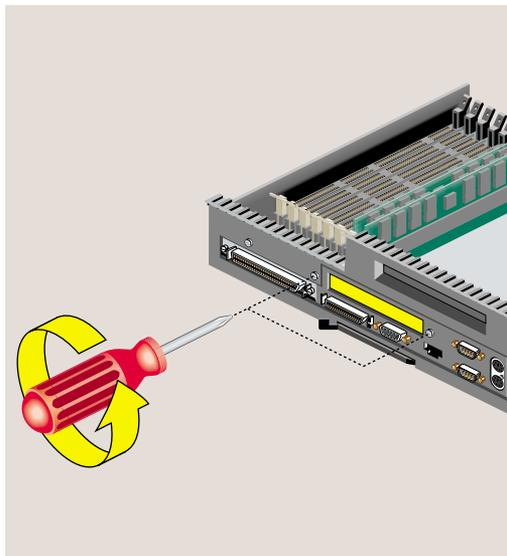

Figure 2-36 Removing the I/O Filler Panel
- Use a Phillips screwdriver to remove the two screws that hold it (Figure 2-36).